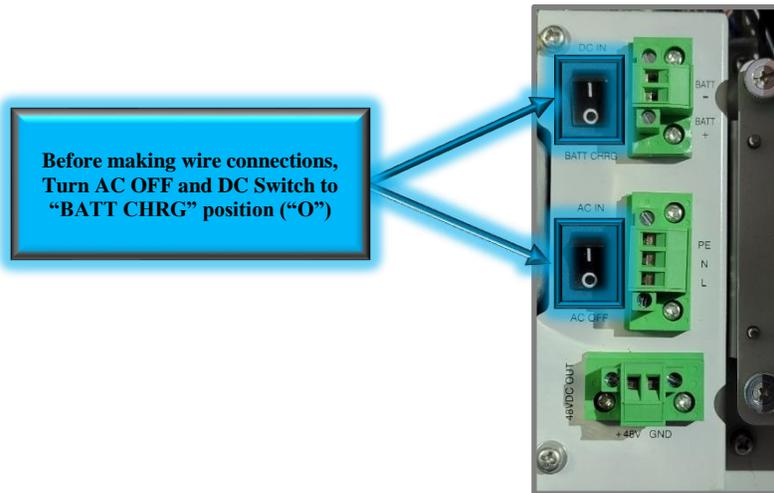

Figure 38: BDA/MU/RU AC and DC Switch OFF
- Switch both AC IN/AC OFF (POWER) and DC IN/BATT CHRG (BATTERY) to OFF (O) in the BDA/MU/RU as shown in Figure 38 below.